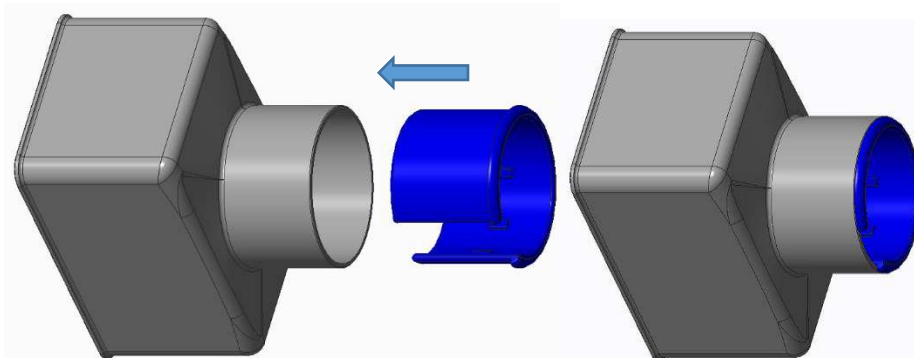

Figure 5: Inner ferrule sleeve into inner ferrule
- Slightly compress the inner ferrule sleeve and install into the inner ferrule from the cable end as shown in Figure 5.